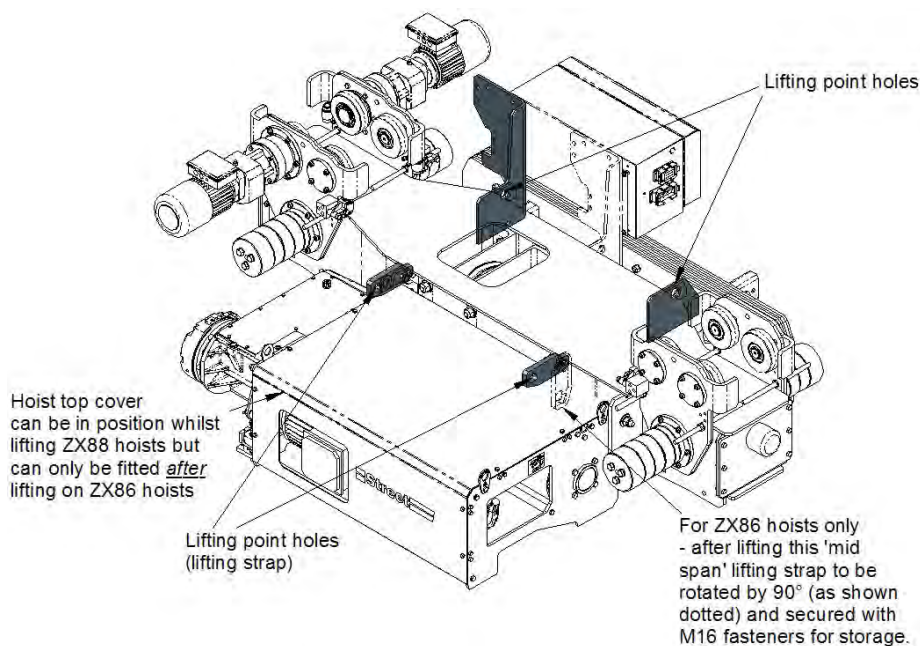

Figure 27 – Lifting the hoist to the runway
- See Figure 27 fit suitable lifting chain hook to lifting point holes.
For 6 Fall hoists to allow the fitting of the hoist cover, rotate 'mid span' lifting strap by 90° and secure with 1 off M16 fastener (the 2nd M16 fastener is to be retained in the unused hole for future lifting requirements) Figure 27.
- For 6 Fall hoists the lifting straps require removal and fitting into the storage position, see Figure 27, to allow the fitting of the hoist top cover, refit the hoist cover.